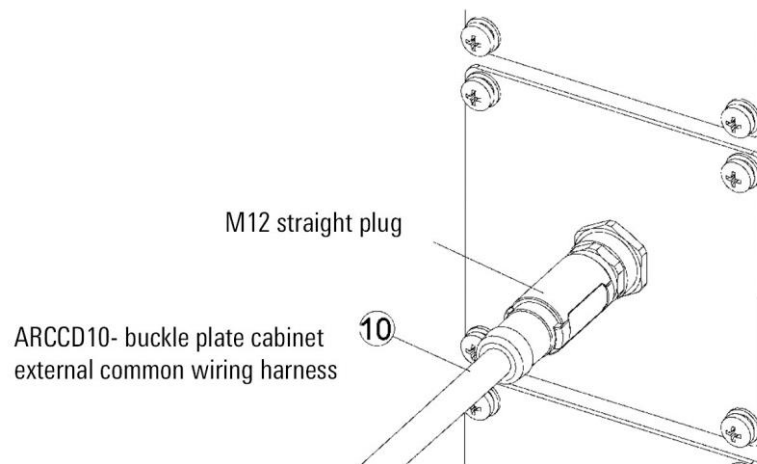

Figure 2-10 ARCCD10- shared wiring harness outside the buckle board cabinet
Step6. Connect one end of the ⑩ ARCCD10- buckle plate cabinet external common wiring harness with an M12 straight plug to the M12 female connector of the cabinet according to the triangular positioning mark, and the other end to the ⑪ integrated spring terminal block, refer to Figure 2-10.